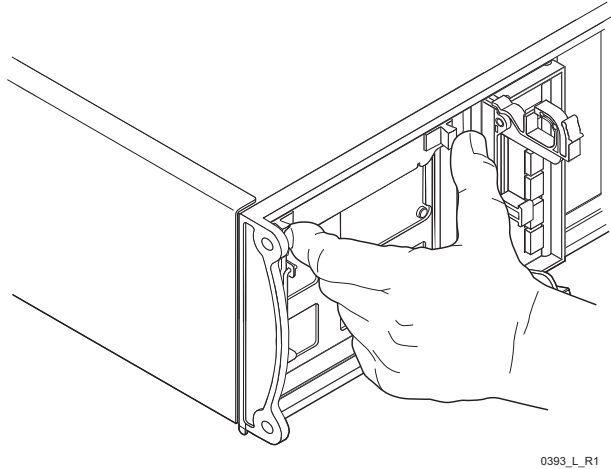

Figure 19-1. Squeeze the Two Tabs Together
- 7 Push the two release tabs on the lever of the power supply together and lower the lever until it disengages from the chassis midplane (Figure 19-1).